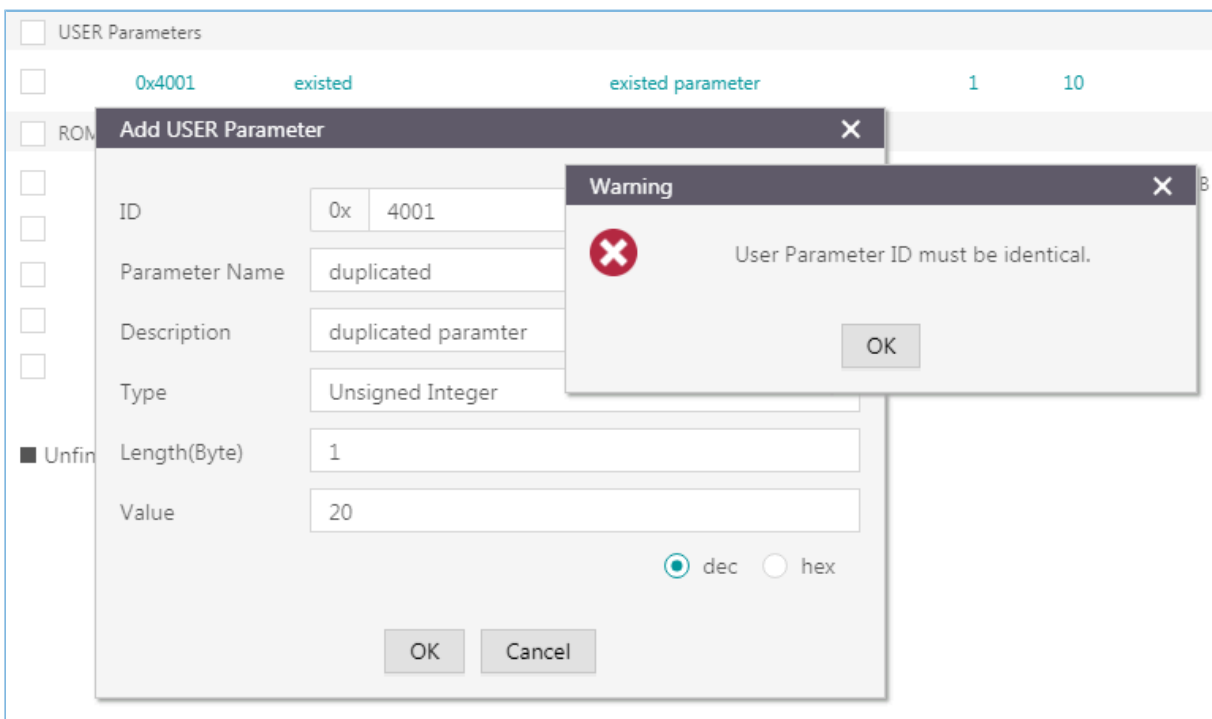

Figure 3-41 Failure to add a user parameter due to an identical parameter ID
- You cannot input a parameter ID that is identical with those listed in the **Parameters** pane. Otherwise, a warning dialog box pops up, as shown in Figure 3-41.